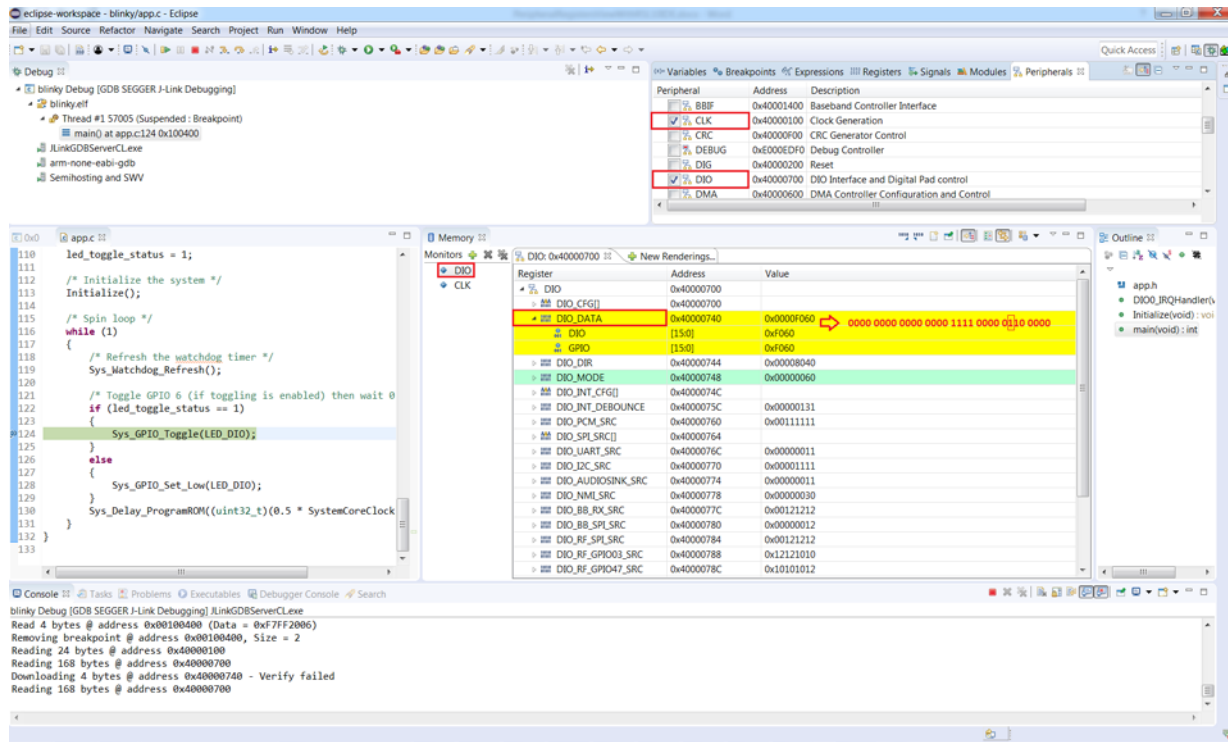

Figure 14. Peripheral Registers View Perspective in Debug Session After Setting SVD Path
6. Press F6 to step through the code. You can observe that this register's bit 6 toggles its state when `Sys_GPIO_Toggle(LED_DIO)` is executed. The register turns yellow to indicate that you have activated real-time monitoring for it. (see Figure 14).